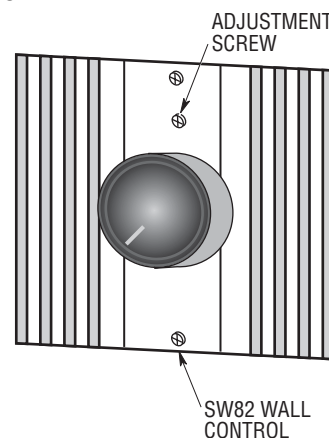

Figure 4
1. Turn the wall control "ON" using the knob on the SW82. Set the fan to "High" speed and allow the fan to run for 30 minutes to normalize the motor temperature (Figure 4).
2. It is recommended that the fans rotate at a minimum of 60 RPM on low speed to avoid stalling the motor. To adjust the fan RPM, locate the adjustment screw on the control's front panel (Figure 4). With a small flat blade screw driver, slowly turn the adjustment screw clockwise to decrease RPM and counter-clockwise to increase RPM. Turn the adjustment screw in small increments and allow the fan to speed up or slow down before making the next adjustment.